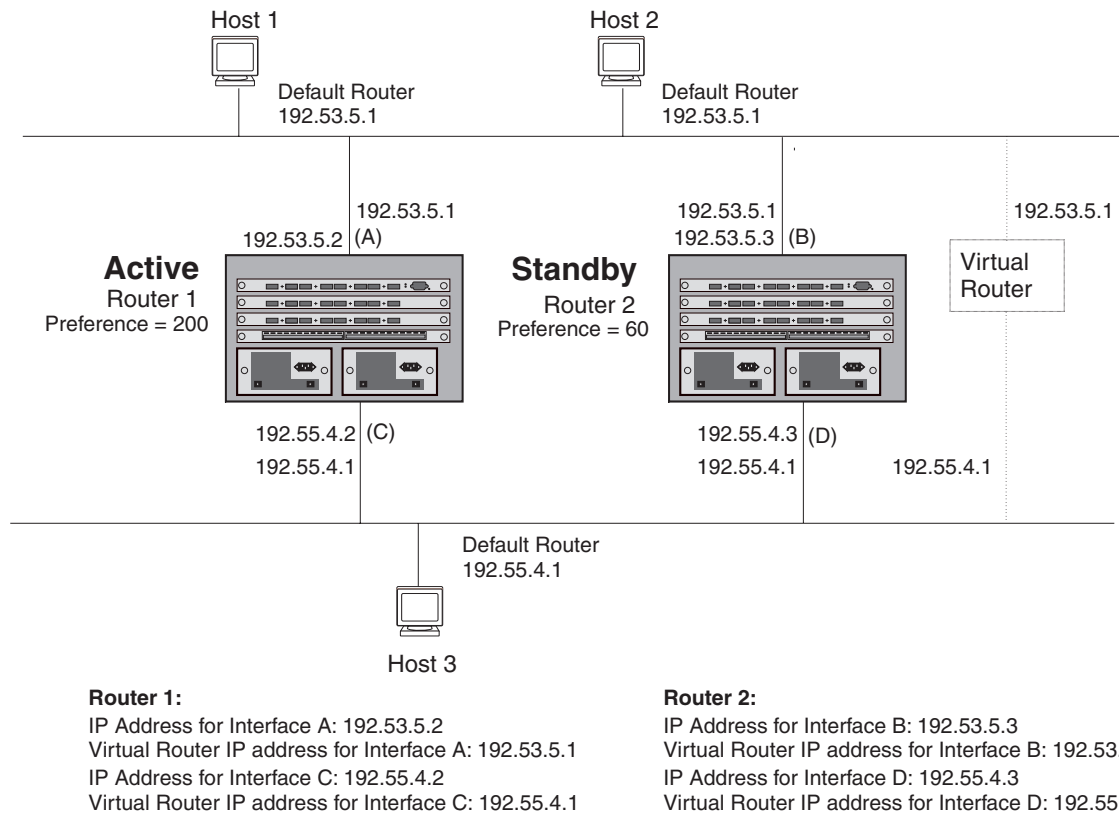

Figure 10.5 SRP operating in an HP 9304M network
In the examples in this section, SRP is used to provide a redundant path between Host 1 and Host 3 to ensure against failure of the primary path. See Figure 10.5.
To define and assign the virtual router IP addresses for Router 1, shown in Figure 10.5, you would need to define two separate virtual IP addresses for interfaces A and C and link those addresses to the IP addresses of the physical interfaces for A and C.
To define and assign the virtual router IP addresses for Router 1, shown in Figure 10.5, you would need to define two separate virtual IP addresses for interfaces A and C as well as linking those address to the IP addresses of the physical interfaces for A and C.
4. Select the IP address to be configured from the IP Address field's pull down menu. For example, if you are initially assigning SRP to interface A (Router 1) as shown in Figure 10.5, select IP address 192.53.5.2.
5. Assign a virtual IP address for the virtual router. A virtual router IP address needs to be configured on at least one router in the SRP group. For interface A, you would assign 192.53.5.1, as shown in the network configuration of Figure 10.5.
6. Enter the other router IP address. This is the physical IP address of the partner router's interface in the active-standby router relationship. Notice that in the case of the example (Figure 10.5), interface B on router 2 is designated as the standby router interface so IP address 192.53.5.3 is entered.